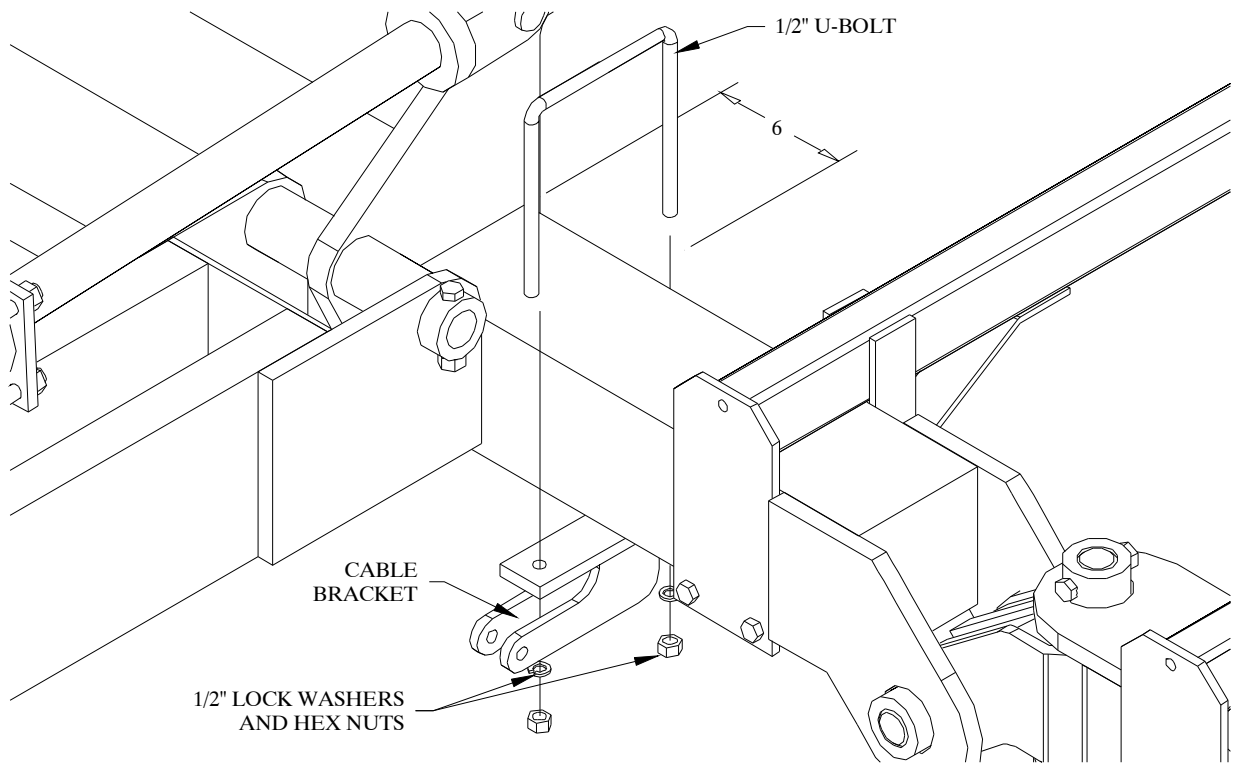

Figure 29
1. Attach the cable bracket to the center bar 6" from the cylinder hinge plate. Refer to Figure 29. Use two $\frac{1}{2}$ " x 7" x $8\frac{3}{4}$ " u-bolts, lock washers and hex nuts.